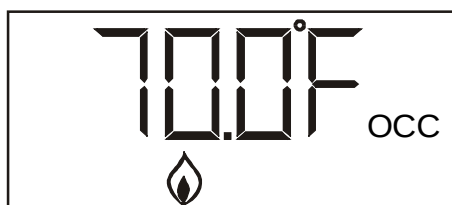

Figure 14: Heating Setpoint Temperature
- Press the Menu button once. The heating setpoint temperature appears (Figure 14).